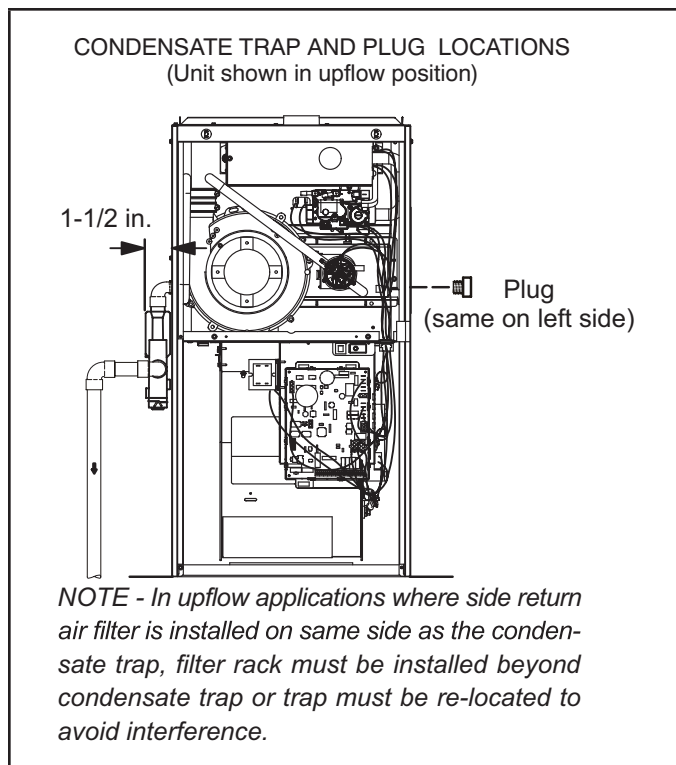
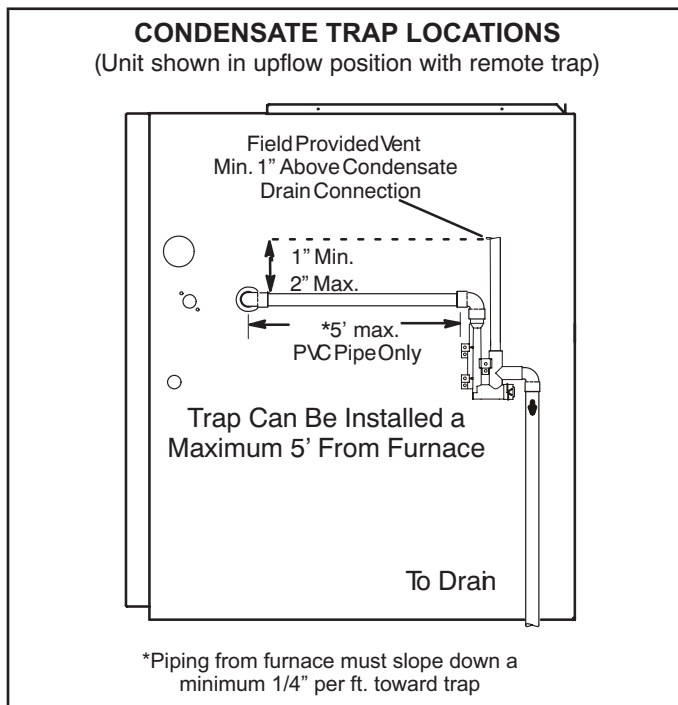
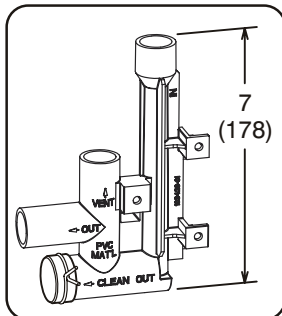

FIGURE 39
FIGURE 41
FIGURE 47
This unit is designed for either right- or left-side exit of condensate piping in upflow applications. In horizontal applications, the condensate trap must extend below the unit. An 8" service clearance is required for the condensate trap. Refer to FIGURE 39 and FIGURE 41 for condensate trap locations. FIGURE 47 shows trap assembly using 1/2" PVC or 3/4" PVC.
- 3 - Install the cap over the clean out opening at the base of the trap. Secure with clamp. See figure 39.
- 4 - Install drain trap using appropriate PVC fittings, glue all joints. Glue the provided drain trap as shown in FIGURE 47. Route the condensate line to an open drain. Condensate line must maintain a 1/4" downward slope from the furnace to the drain.